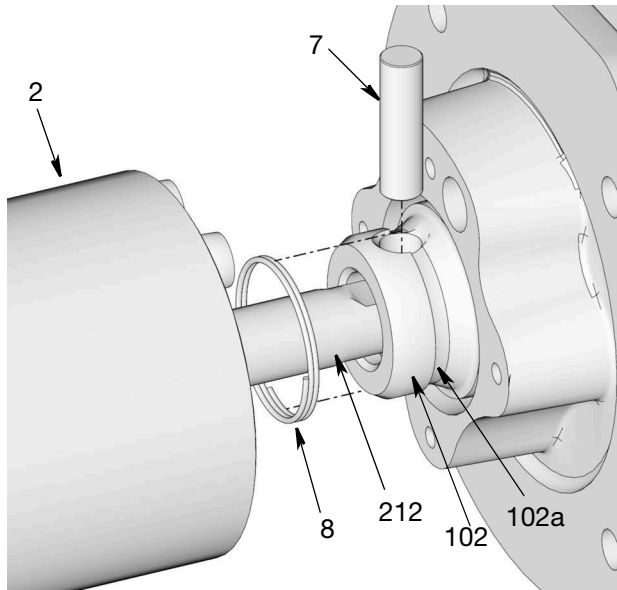

FIG. 26
11. Slide the spring (8) out of the groove (102a) in the connecting rod (102) to expose the pump pin (7) (FIG. 26). Push or tap the pump pin (7) out of the hole.